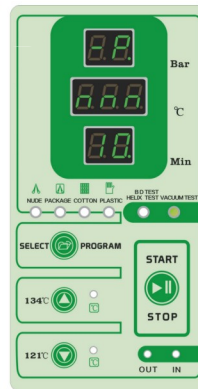

Fig.7.4-13
(4)this pressure is maintained for 10 minutes and then measured P3.(Fig.7.4-13)